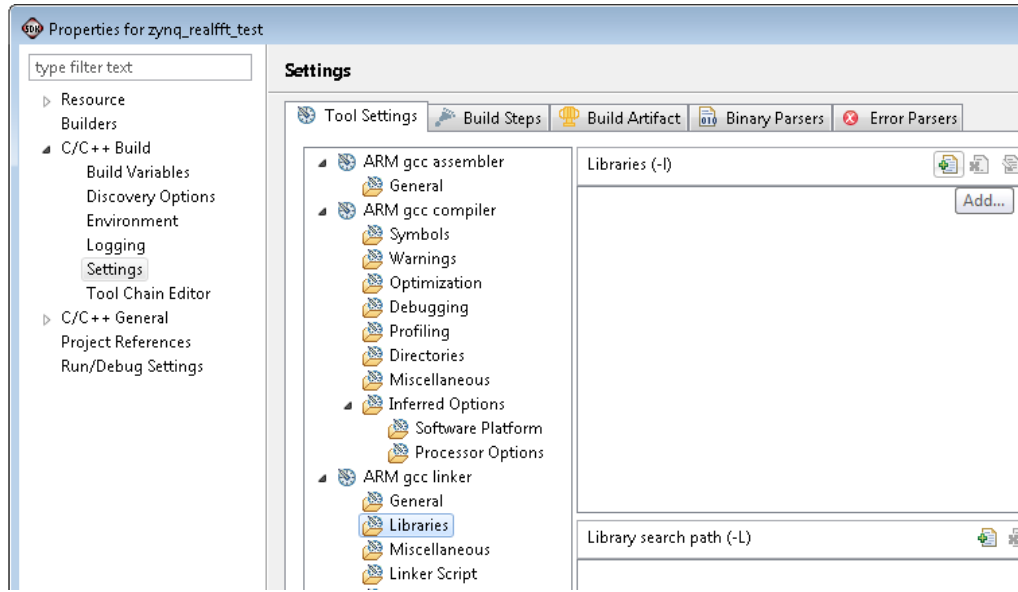

Figure 265: C/C++ Build Settings
- ii. Click the **Add** icon (see Figure 265).